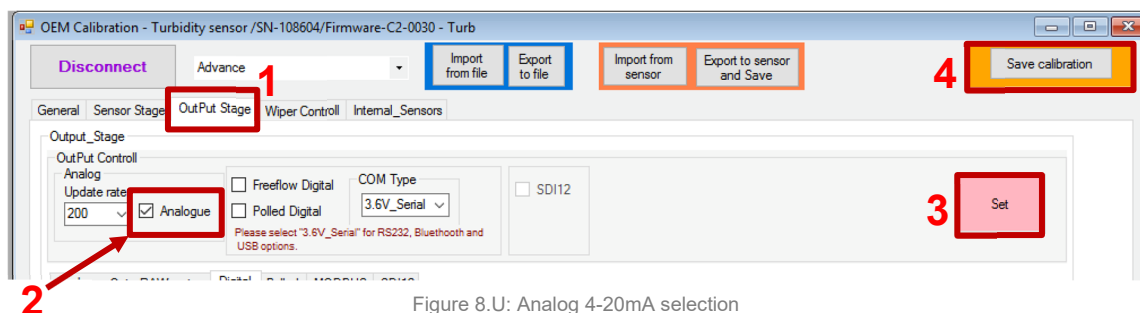

Figure 8.U: Analog 4-20mA selection
- Select “OutPut Stage” option (Figure 8.U: Analog 4-20mA selection#1).